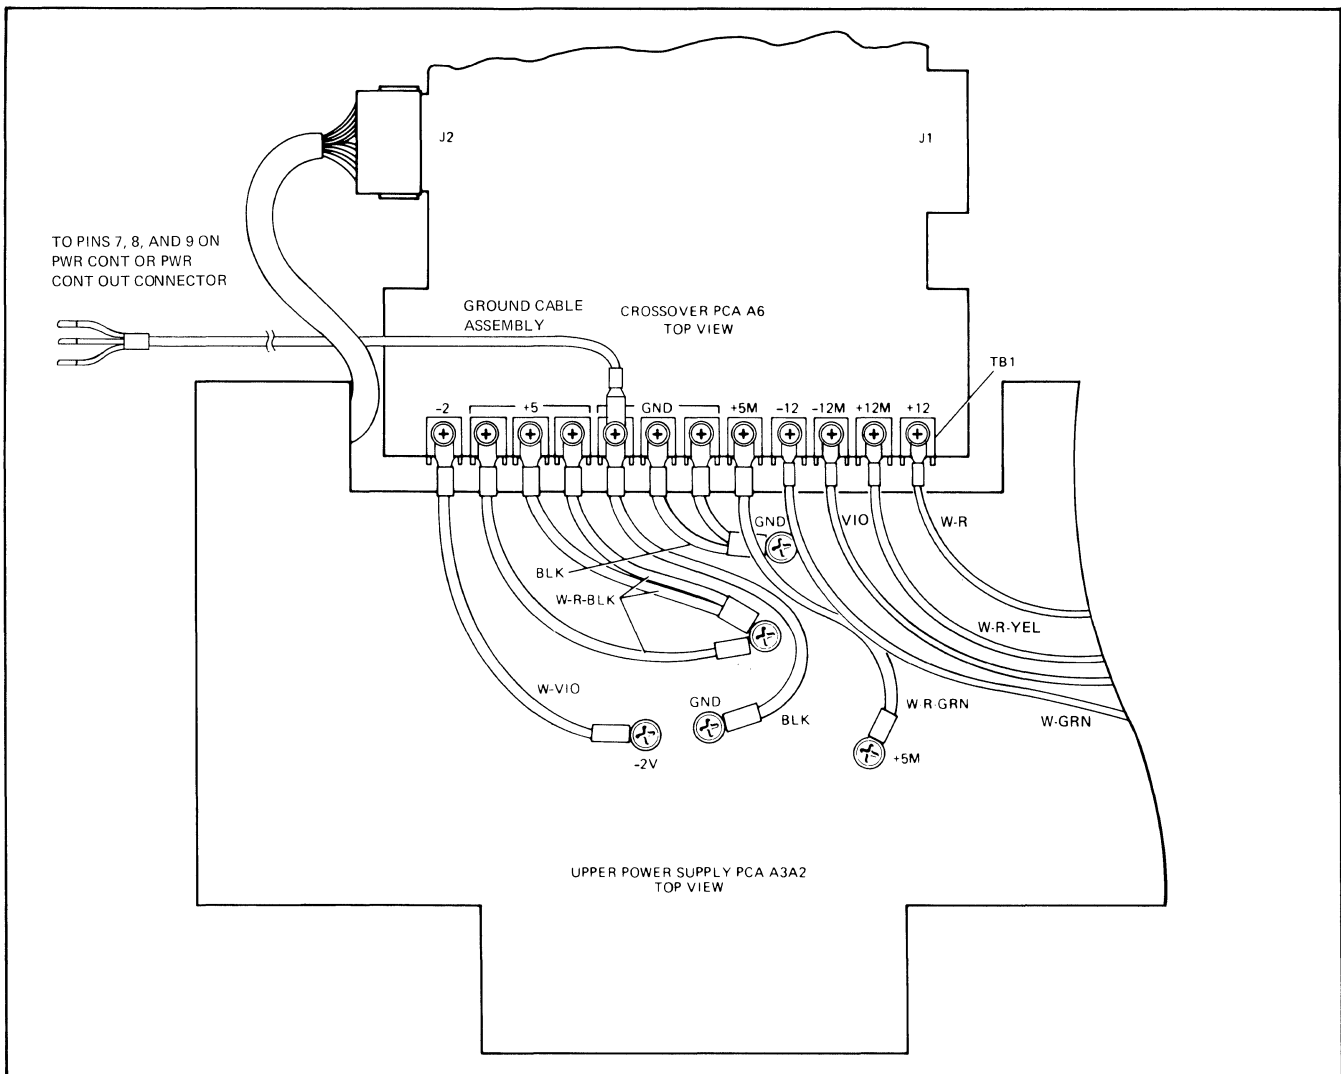

Figure 2-2. Typical Computer Crossover PCA Power Connections
- c. Connect the lug of the ground cable to a ground terminal on the crossover PCA as shown in figure 2-2. Some HP 2108A computers have terminal screws inserted from the bottom of the crossover PCA. If you have such a computer, remove the screw from one of the crossover PCA ground terminals, slide the terminals off of the PCA edge, reverse the terminal and secure it and the ground wires to the PCA by inserting the screw on top.